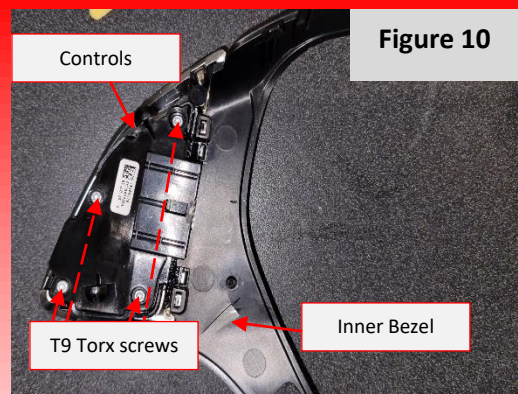

Figure 10
13. Take the bezel that houses the upper controls and flip it face down. To swap the controls to the new aftermarket bezel, use a Torx T9 bit to remove the (x4) screws on the left hand side cover (**Figure 10**). This cover must be removed as the connector socket for the upper controls retains the piece to the bezel.